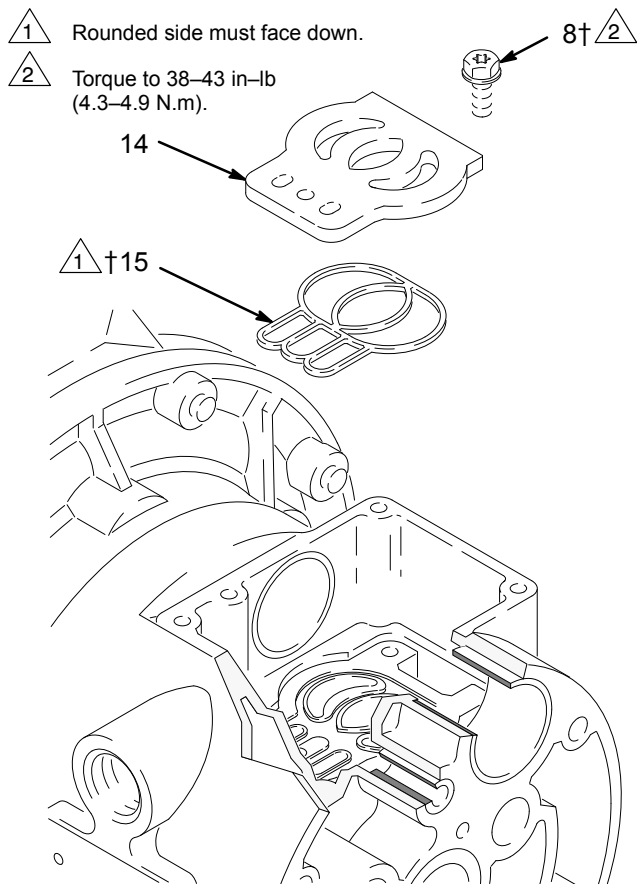

Fig. 11
5. Inspect the valve plate (14) in place. If damaged, use a torx screwdriver or 8 mm (5/16") socket wrench to remove the three screws (8). Remove the valve plate (14) and seal (15). See Fig. 11.
2. Install the valve plate seal (15†) into the groove at the bottom of the valve cavity. The rounded side of the seal **must face down** into the groove. See Fig. 11.
3. Install the valve plate (14) in the cavity. The plate is reversible, so either side can face up. Install the three screws (8†), using a torx screwdriver or 8 mm (5/16") socket wrench. Torque to 38–43 in-lb (4.3–4.9 N.m). See Fig. 11.